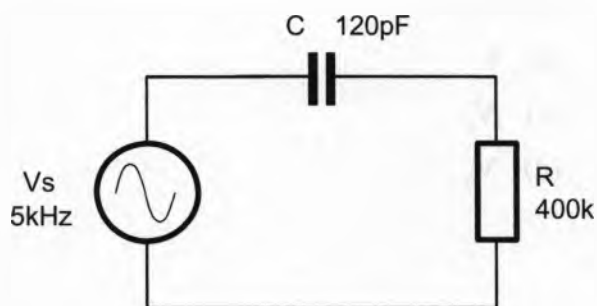

Figure 6
11. For the circuit of Figure 6, if the potential difference across the capacitor (V_C) is 22V (peak-to-peak), then calculate: